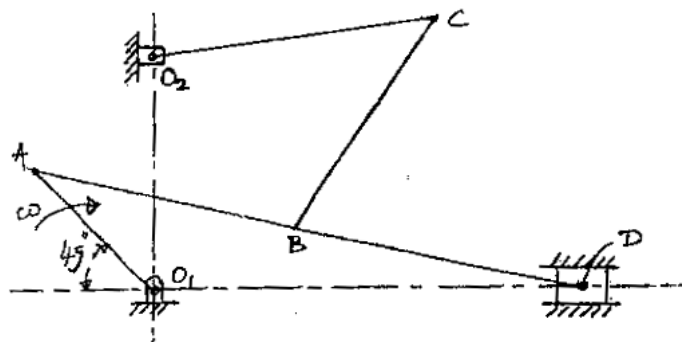

Fig. 3(b)
- b. The driving crank O_1A of mechanism shown in Fig. 3(b) is rotating at 200 rpm. For the given configuration, locate all the instantaneous centres and determine angular velocity of link BC. Given $O_1A = 50$ mm, $AB = 100$ mm, $AD = 200$ mm, $O_1O_2 = 100$ mm and $BC = O_2C = 100$ mm.